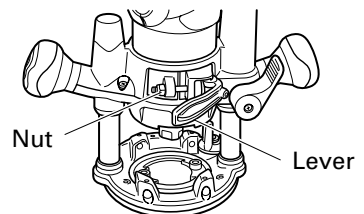

Fig. 3
- (3) Close the lever. (Fig. 3)